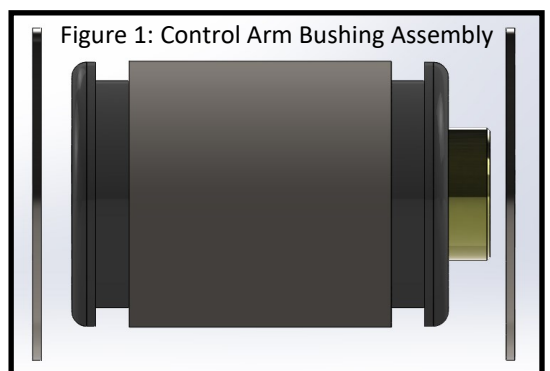

Figure 1: Control Arm Bushing Assembly
11. Install the new control arms after assembling the bushings as shown in the image **(FIGURE 1)**. Use grease liberally and coat all contact surfaces. Ensure that the washers are centered on the sleeves for proper functioning.